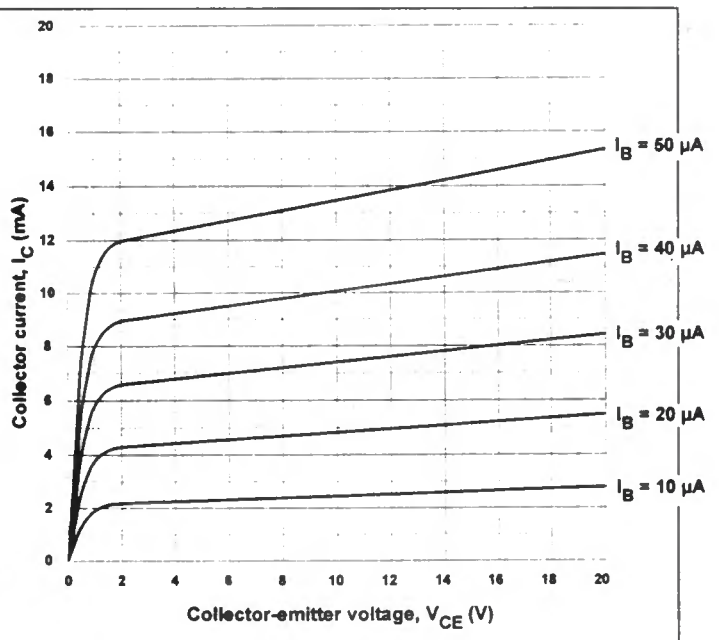

Fig. 4.11 Output characteristic (I_C plotted against V_{CE} with I_B constant).
- the output characteristic (I_C plotted against V_{CE} with I_B constant, Fig. 4.11).
A set of output characteristics is shown in Fig. 4.11. This set of curves results from the fact that I_C will increase both as I_B increases and as V_{CE} increases. Note that we must usually construct a family of curves for increasing values of I_B . It is also worth noting that the output characteristics have a pronounced bend (or "knee") for values of V_{CE} below 2V. Above this value, I_C will rise only very slowly as V_{CE} increases. We refer to the shape of this part of the graph (above $V_{CE} = 2V$) as a "constant current" characteristic.